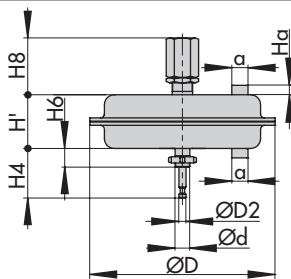

Fig. 19: Type 3271 with travel stop
1) Travel stop on both sides (see Fig. 19)